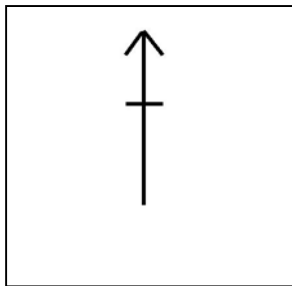

Figure 5-21. M249/M60 and M240B machine gun symbol.
- Weapon symbol (Figure 5-21, page 5-18).